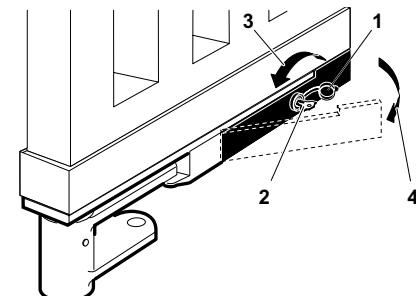

Fig. 16
- open the lid of the lock (fig. 16-ref. 1);
- insert the release key in the lock (fig. 16-ref. 2);
- turn the key in the direction of the post, as far as it will go (fig. 16-ref. 3);
- pull the lever out (fig. 16-ref. 4);